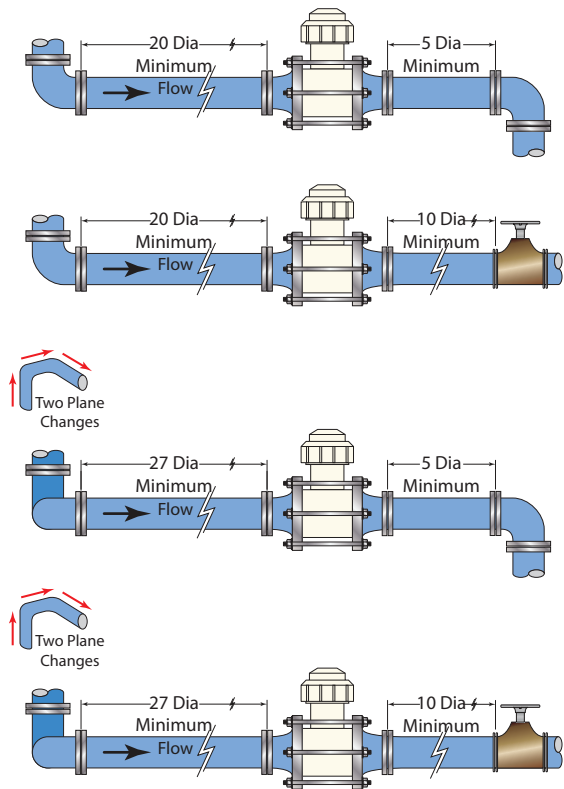
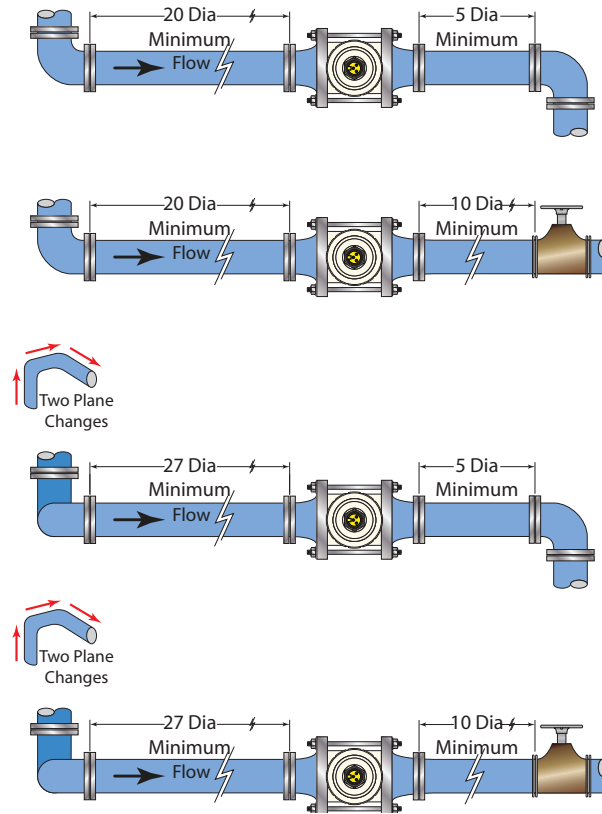
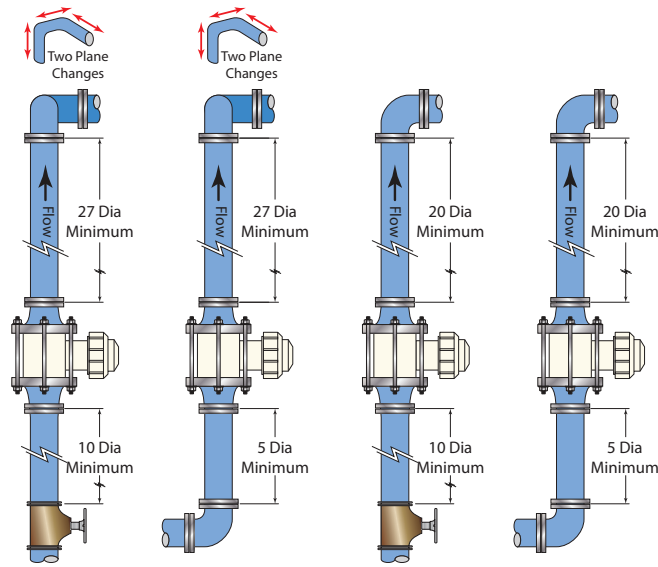
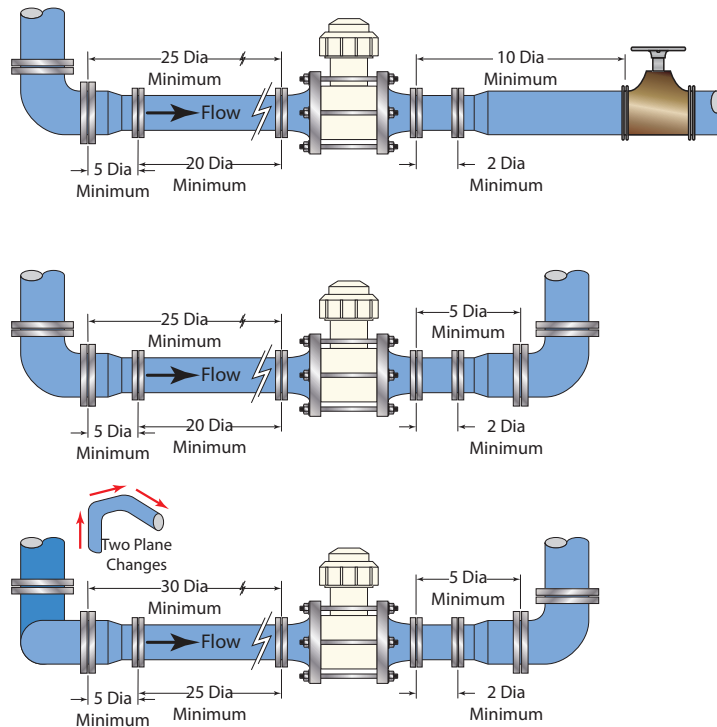

Figure 2: Horizontal flow with sensing element in vertical orientation
Figure 3: Horizontal flow with sensing element in horizontal position
Figure 4: Vertical flow with a change in direction or valve
Figure 5: Horizontal flow with a change in pipe diameter
Turbulence in the pipeline can affect the accuracy of flow meters. Typical sources of turbulence are pumps, valves, change in pipe diameter or changes-in-direction in the line. Install the meter away from the turbulence source to avoid turbulence issues. These distances are indicated in Pipe Diameters (PD). For example, 10 PD is ten times the inside pipe diameter away from the source of turbulence. Follow upstream and downstream distances for all sources of turbulence. See *Figure 2 on page 7*, *Figure 3 on page 8*, *Figure 4 on page 9* and *Figure 5 on page 9* for proper piping distance requirements.